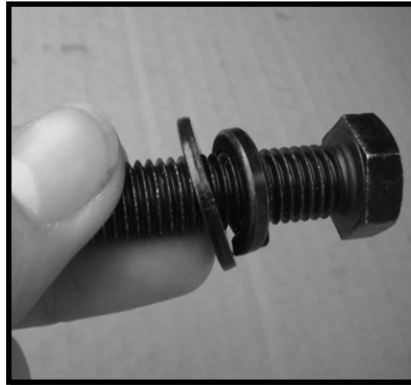
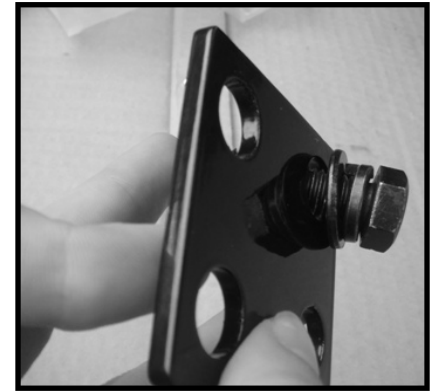

Figure 4.
Figure 5.
5. Once vertical orientation is determined, insert bolt and washer assembly (Figure 4) through the bottom right corner of the backing plate (Figure 5).